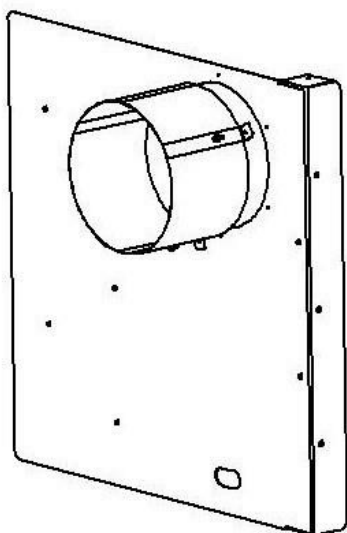

Fig. 1
STEP 2: Attach the inner and outer telescoping vent pass through heat-shields to the wall plate as shown in Fig. 1 & 2. The vent pass through heat-shields are to be installed where the vent passes through the first adjacent wall to the left or right of the corner install kit.